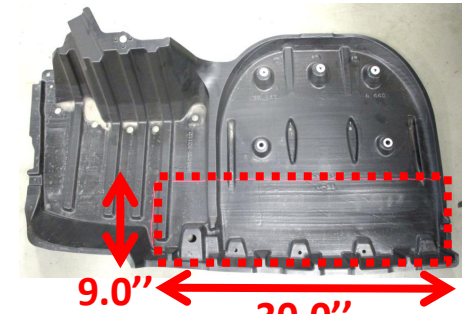

Figure 5
- Trim bottom appearance panel** - Trim the bottom appearance panel as shown in **Figure 5**.